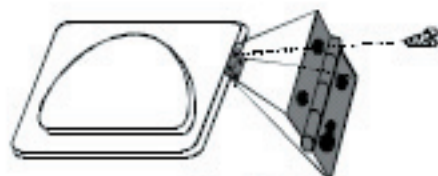

Fig. 2-21
12. Reattach the hinges to the door so the key hole slot is at the bottom of the hinge. (Fig. 2-21)
13. Carefully remove the four hinge hole plugs (C) in the left side of the cabinet and insert them in the hinge holes on the right side of the cabinet.